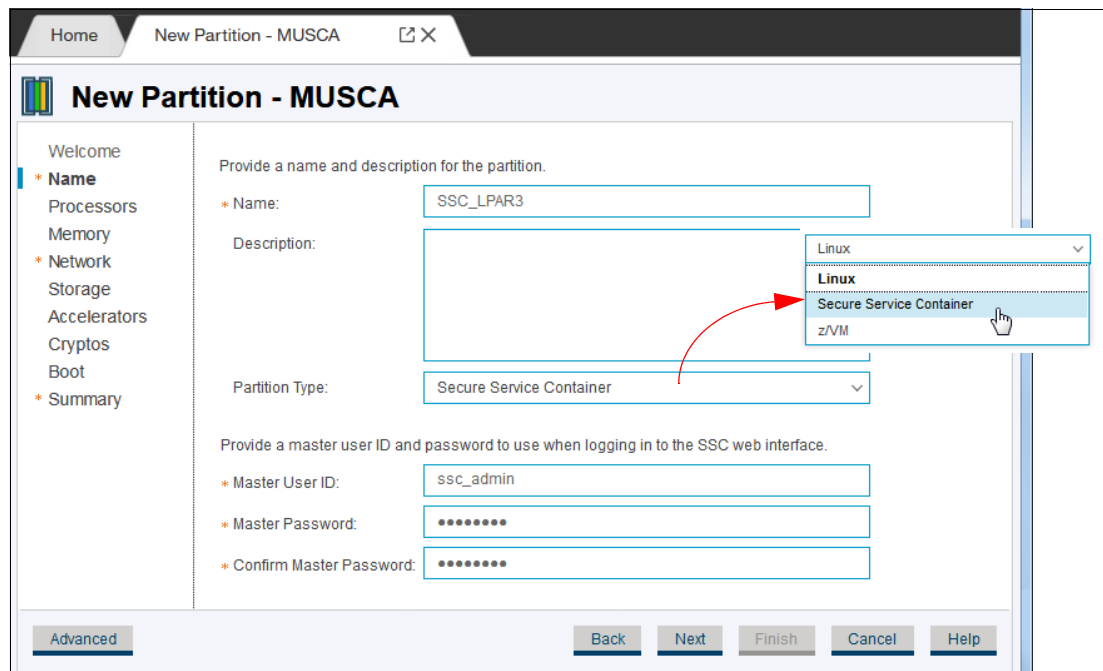

Figure 16-51 Secure Service Container partition description
2. Select the type of partition (**Secure Service Container**), as shown in Figure 16-51. For this type of partition, no operating system console is used, only web interface access. For more information about the user information configuration, see your documentation.